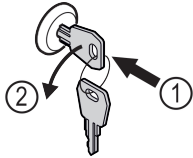

Fig. 123
- ▶ Insert the key. Fig. 123 (1)
- ▶ Turn the key anticlockwise by 90°. Fig. 123 (2)